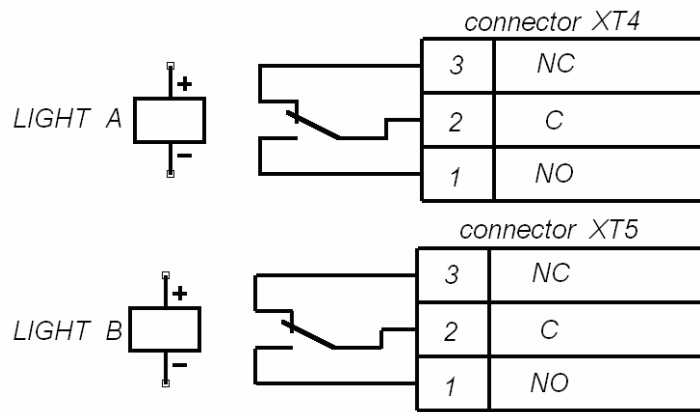

Fig. 8. Output cascades for Light A and Light B
5.9.4 The remote indicators can be connected to the connector blocks “XT4” (“Light A”) and “XT5” (“Light B”). At that the “Light A” (“Light B”) relay is active (the voltage is supplied to relay coil), when the “Green arrow” pictogram on the indication module (5) corresponding to the set passage direction lights, and it is normalized, when the “Green arrow” pictogram on the indication module (5) does not light. The response/trip of relays “Light A” and “Light B” can be defined according to lighting up/going down of the red indicators, which are installed near the above mentioned relays (see Fig. 3). Output cascades for “Light A” and “Light B” are nonbridging relay contacts (see Fig. 8) with the following signal characteristics: